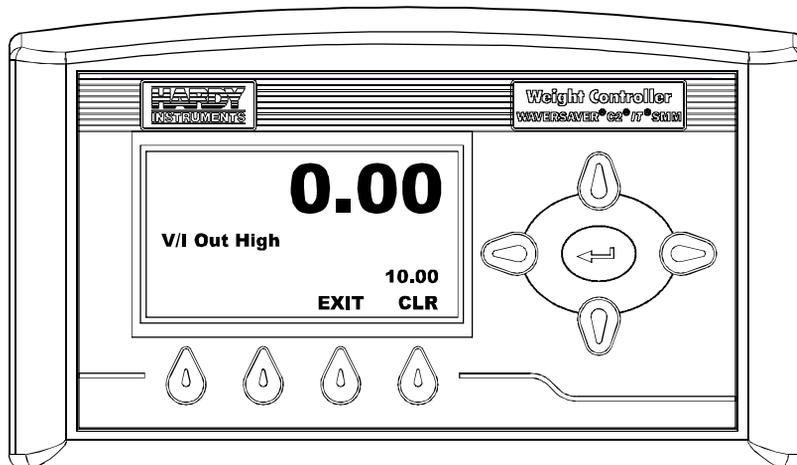

FIG. 152 V/I OUT HIGH MENU/SETTING HIGH VOLTAGE
Step 5. To Set or Change the Voltage Out High press the Enter button. the V/I High Menu appears. (See Fig. 152)